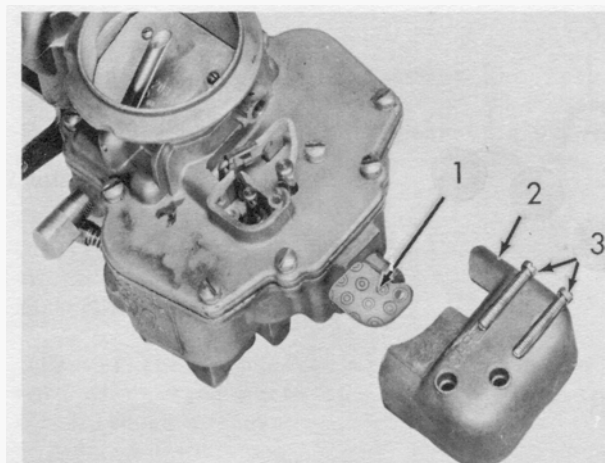

Fig. 6
Loosen the retaining cap screws (3, Fig. 6) in the carburetor dust cover and remove the cover (2). Remove screws and gasket (1) from the dust cover.